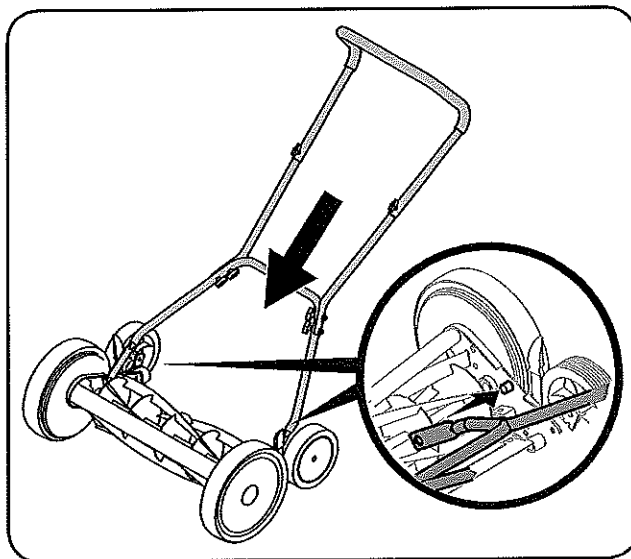

Figure 3-3
3. Position the complete handle assembly over the studs on the rear of the mower frame. See Fig. 3-3.